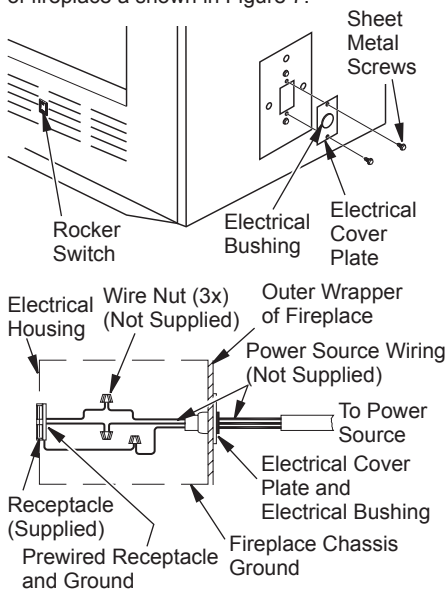

Figure 7 - Fan Switch-Electrical Bushing
Fan or blower kit is optional with this fireplace (circulating models only). Use of blowers or fans other than those manufactured by FMI PRODUCTS, LLC voids warranty. Fan is operated by pressing rocker switch (see Figure 7) in lower right hand corner of fireplace face. Blower is operated by turning control knob (not shown).
Fan/blower kit electrical connections are made through electrical cover plate on side of fireplace as shown in Figure 7.
1. Remove electrical cover plate with bushing from fireplace by removing 2 sheet metal screws as shown in Figure 7, page 6.
3. Slide all wiring connections in electrical housing as shown in Figure 7, page 6.